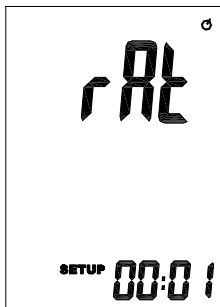

Fig. 2
2. Use the **▲/T1-T2** and **Hold/▼** buttons to scroll to the *rate* setting option screen (see Fig. 2).
3. Press **Rec/Enter** button to access the "00:01" (minute, second) value shown in the tertiary display (see Fig. 2).